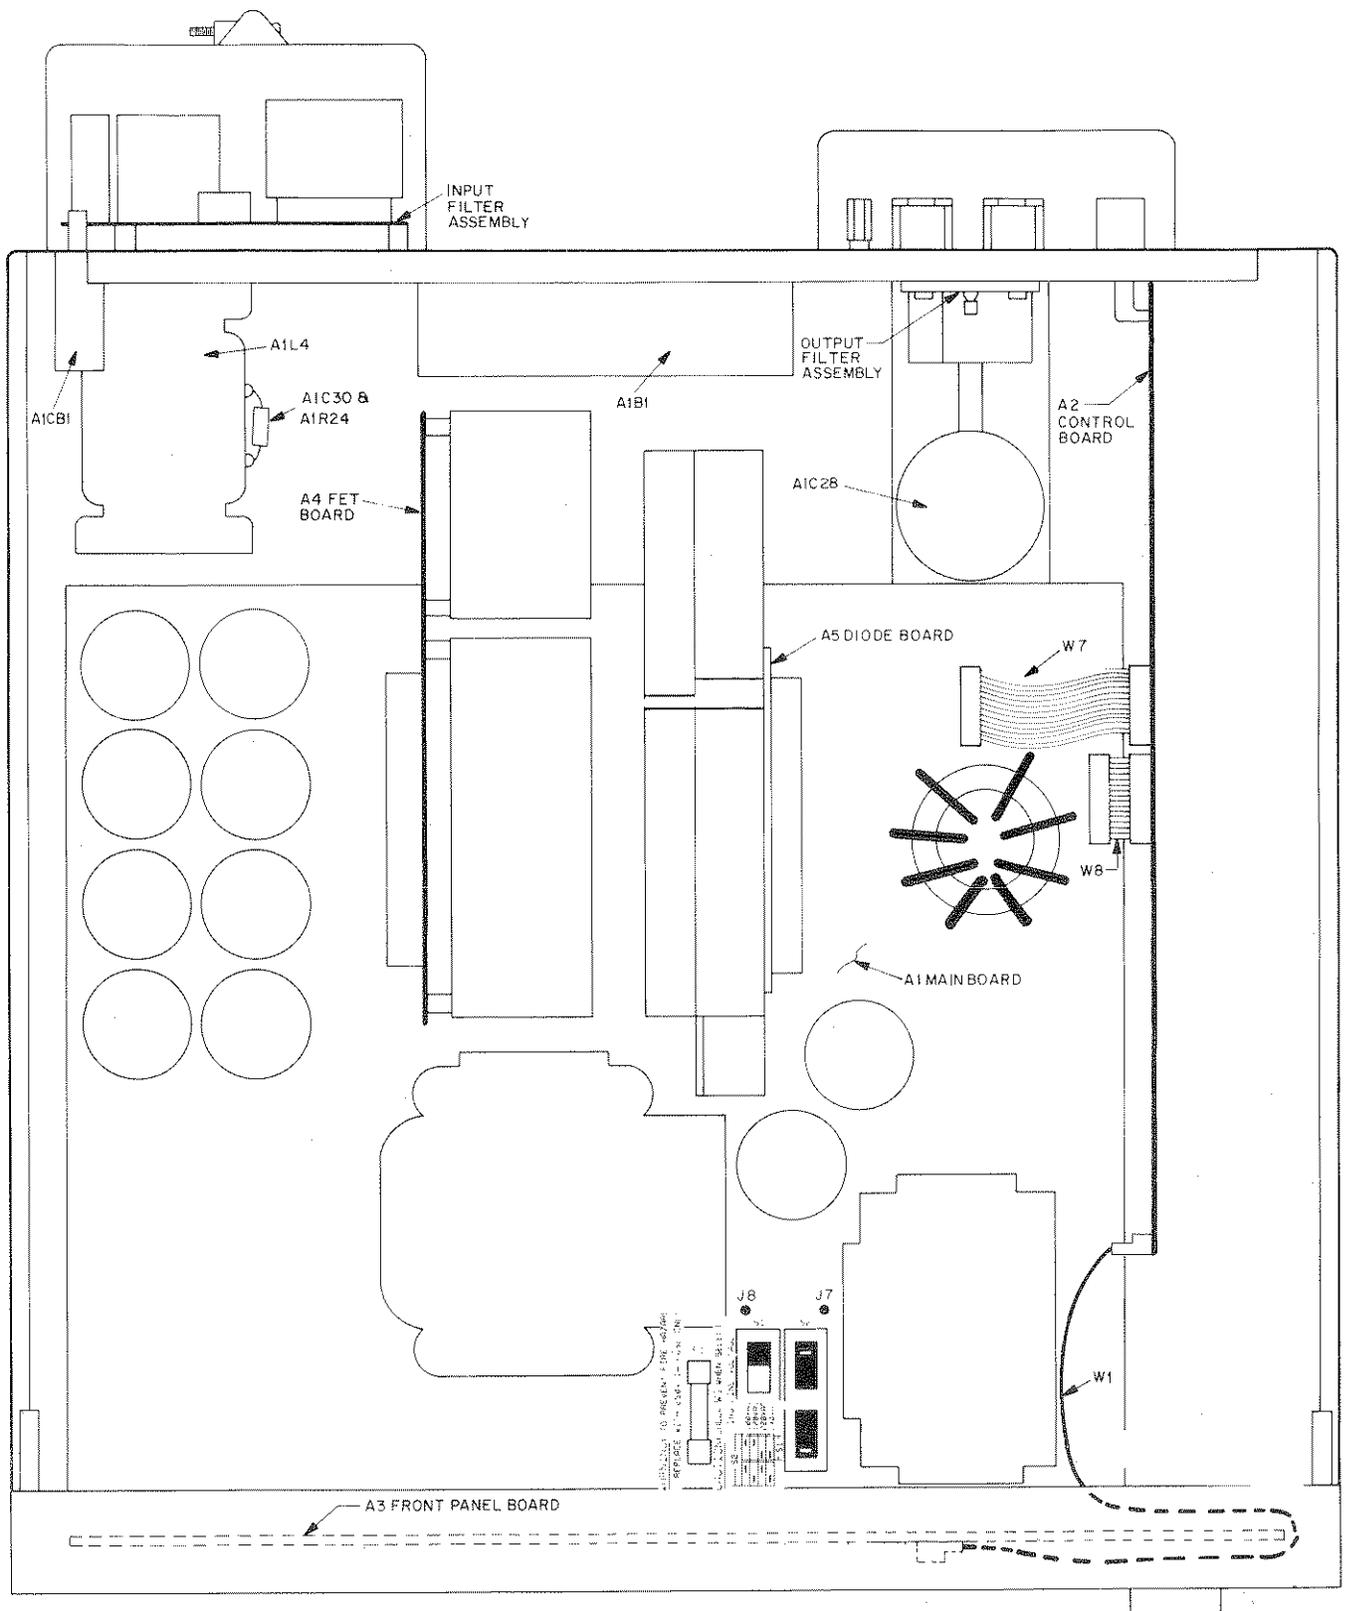

Figure 7-1. Top View, Top Covers Removed
- a. Component location illustrations (Figures 7-1 through 7-8), showing the physical location and reference designators of almost all electrical parts. Components mounted on the A6 AC Input Board and on the output filter board mounted on the output bus bars are easily identified by reference designators silkscreened on the boards.